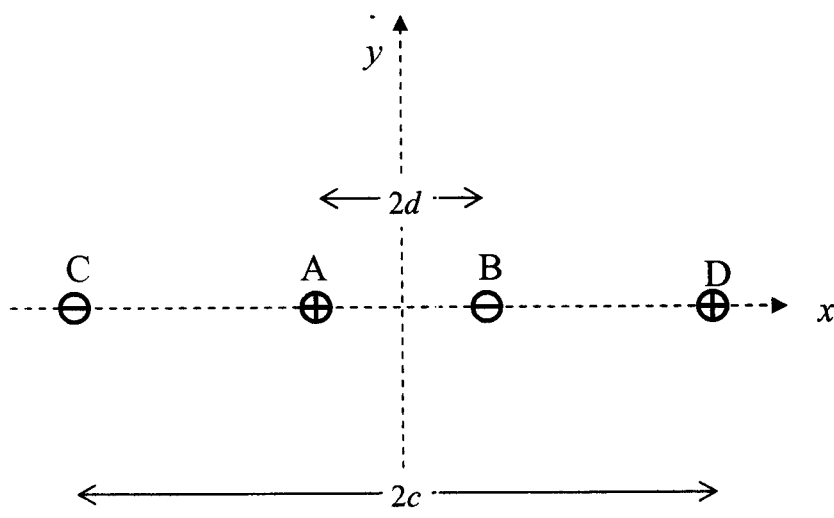

Figure 4.1
4. Four high-voltage wires are supported parallel to one another in air, all in the same  $x$ - $z$  plane, as shown in cross-section in Figure 4.1. Wires A & B lie a distance  $d$  from the origin, while C & D are a distance  $c$  from it. They each carry charges  $+q$  or  $-q$  per unit length, the charge signs being as shown in Figure 4.1.